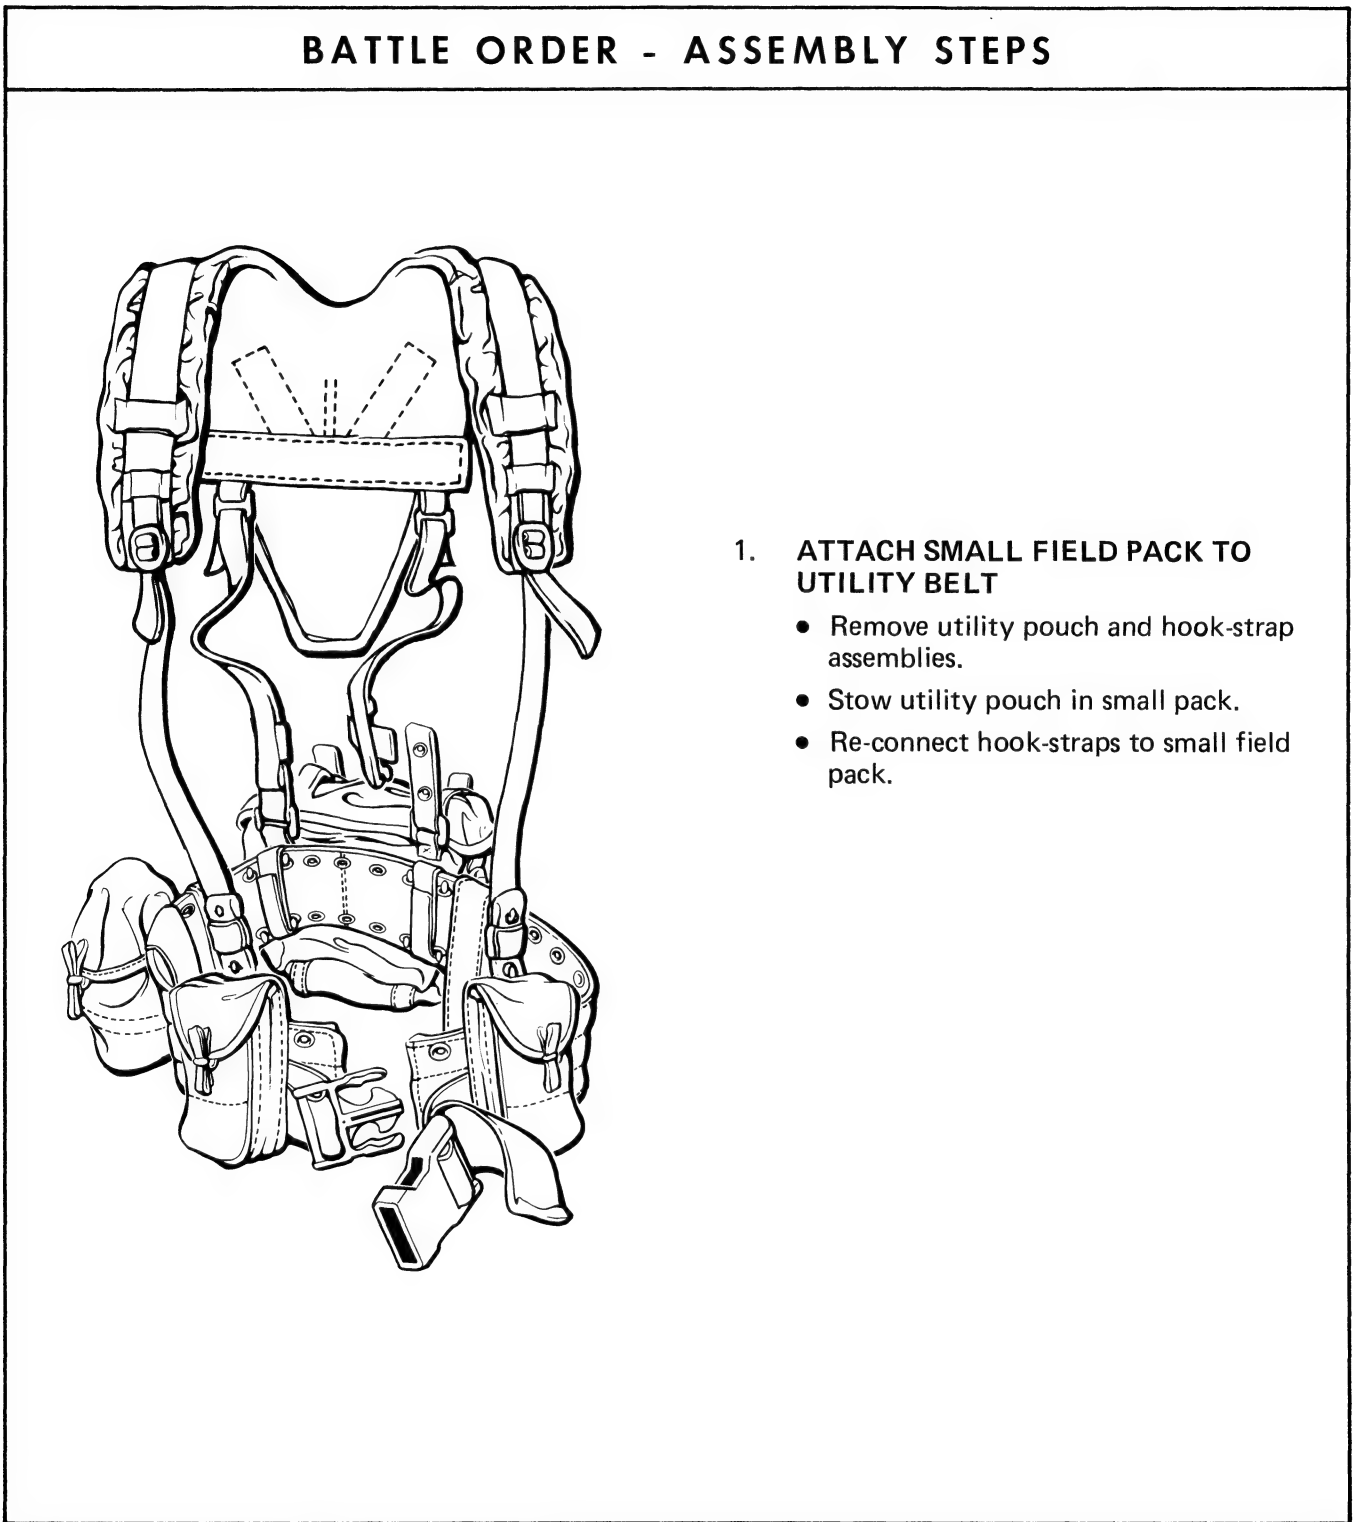

Figure 3-3 Battle Order – Assembly Steps
3. The existing Fighting Order components are retained as the basic webbing and the small field pack is added. The assembly steps are illustrated in Figure 3-3.